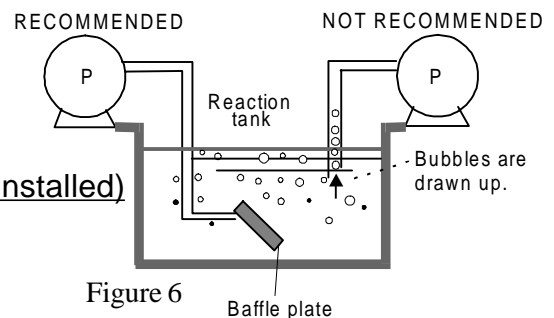

Figure 6
2. In case of suction lift system (Figure 6)